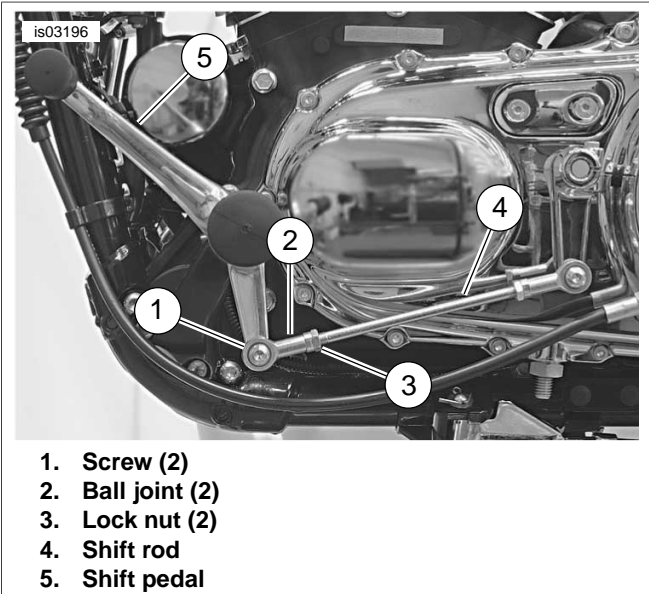

Figure 4. Adjusting Shift Pedal
If the gears do not engage fully or the toe shifter travel is incorrect, the shift linkage must be adjusted. See Figure 4. Adjust the shift rod until the shift pedal is at 45 degrees as described.
- See Figure 4. Remove screw (1) securing the ball joint (2) to shift pedal (5).
- Turn ball joint or shift rod (4) to adjust rod length. Temporarily attach ball joint to shift pedal and check pedal angle. Make sure an equal number of threads are visible on both ends of shift rod.
- When pedal angle is at 45 degrees, install screw (1). Tighten to 120-180 **in-lbs** (13.6-20.3 Nm).
- Holding shift rod (4) so that it does not turn, tighten lock-nuts (3) on each end securely.